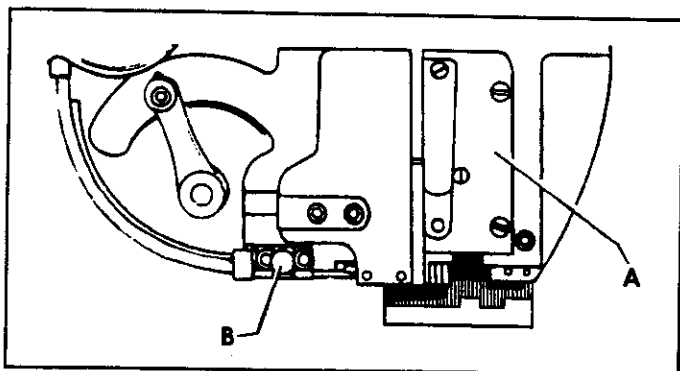

Figure 13
To determine if the Straightener is Adjusted Properly: (1) Remove the front block (Index A, figure 13). (2) turn the stitcher over by hand. The wire should come out of the cut-off die horizontally. (3) If the wire turns up, loosen set screw (Index B, figure 13) and move adjusting slide upward. If the wire curves down, move adjusting slide down. (4) Tighten set screw. (5) Check wire as it comes out of cut-off die to determine if further adjustment is necessary.